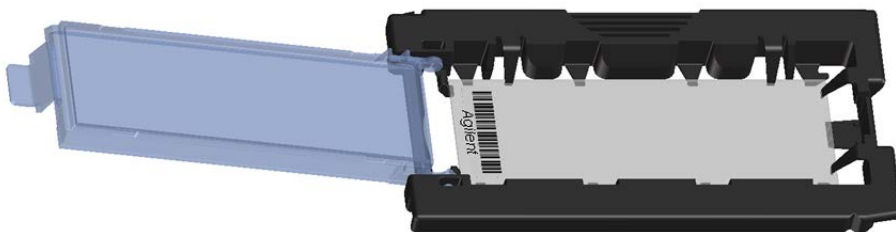

Figure 25 Slide inserted in slide holder – cover open
- c Gently lower the slide into the slide holder. See Figure 25.